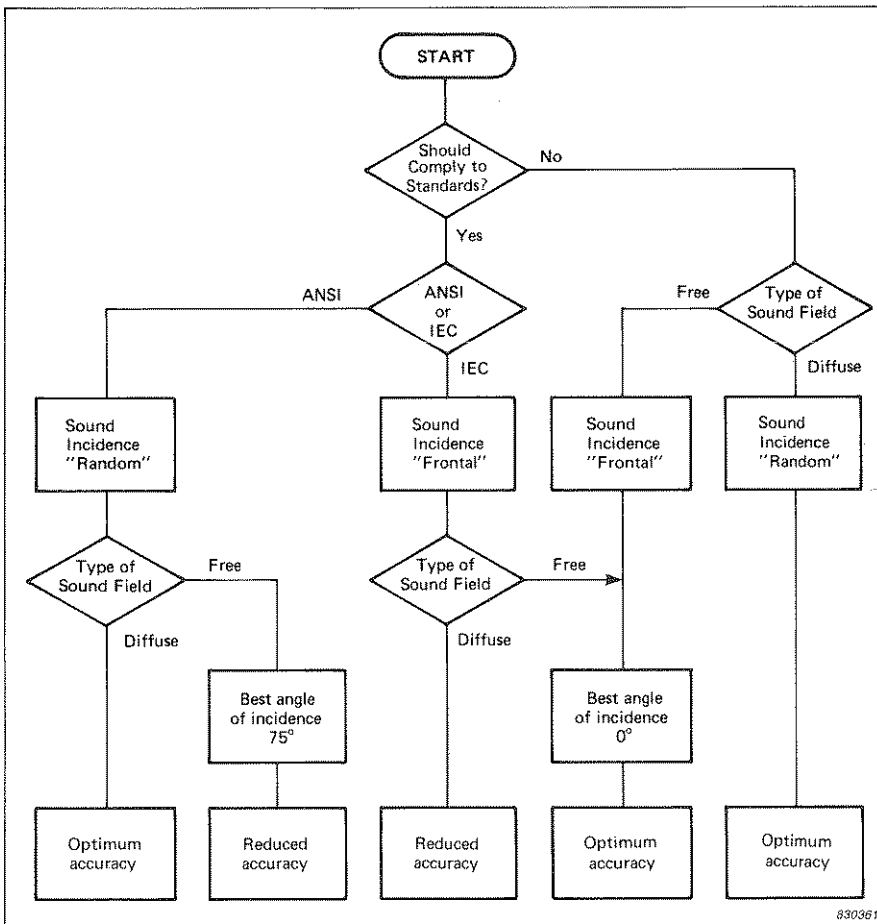

Fig. 8.1. Flow chart to help you choose either the Frontal or Random setting
Microphone Type 4155, the standard microphone for the Type 2231, has a linear free-field response for 0° sound incidence. Under diffuse-field conditions, you can obtain a linear response by correcting the microphone output. To do this, use the **Frontal/Random** pushkey (see section 3.6) which lets you select the proper sound incidence correction parameter. Fig. 8.1 helps you decide whether to use the **"Frontal"** or **"Random"** setting.
- For each setting of **Frontal/Random**, there will be certain conditions under which one setting will be less accurate than the other. To be as accurate as possible, follow the guidelines given in Fig. 8.1.